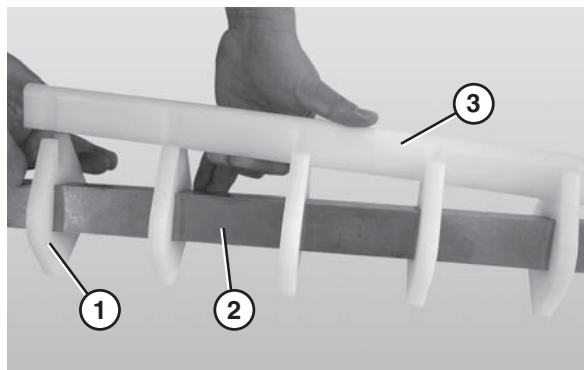

Figure 64
1. Slide the nose bar pucks (**Figure 64, item 1**) onto the nose bar drive post (**Figure 64, item 2**).
2. Attach the nose bar wear strip (**Figure 64, item 3**).